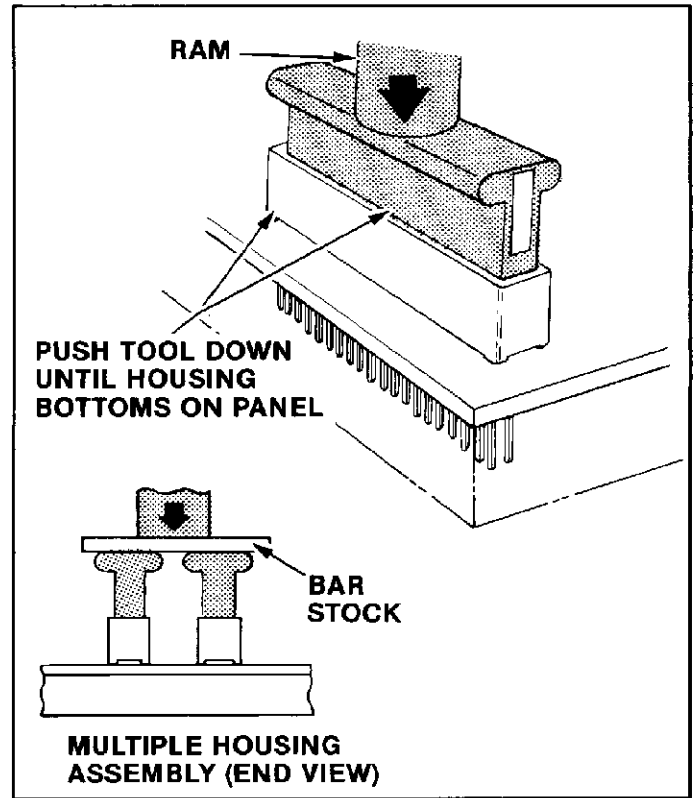

Fig. 4
6. Apply pressure (approximately 6 lb per dual contact position) to push surface of housing tool by lowering ram until housing bottoms on pc board or panel. See Figure 4.
NOTE *Two or more connector housings can be assembled simultaneously by using additional housing assembly tools and a piece of bar stock to distribute the pressure of the machine ram. Refer to Figure 4.*